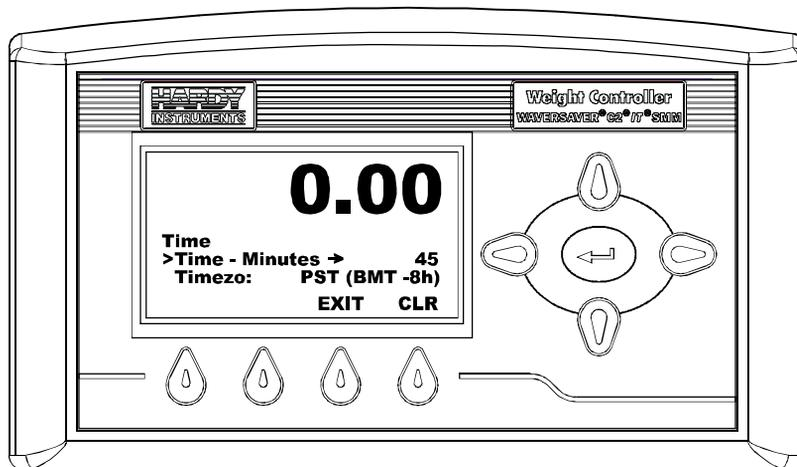

FIG. 106 TIME MENU/SELECTING TIME-MINUTES
- Step 19. Press the Down Arrow button until the cursor is in front of Time - Minutes. (See Fig. 106) The present minute setting is displayed.